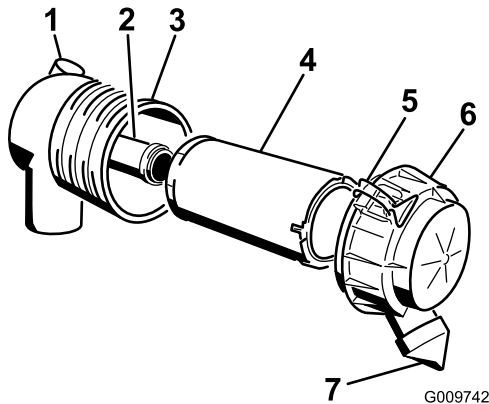

Figure 29
Important: Service the air cleaner filter only when the service indicator shows red (Figure 29). Changing the air filter before it is necessary only increases the chance of dirt entering the engine when the filter is removed.
4. Release the latches on the air cleaner and pull the air cleaner cover off of the air cleaner body (Figure 29).
1. Gently slide the primary filter out of the air cleaner body (Figure 29). Avoid knocking the filter into the side of the body.
4. If you are replacing the safety filter, carefully slide the new filter into the filter body (Figure 29).
5. Carefully slide the primary filter over the safety filter (Figure 29). Ensure that it is fully seated by pushing on the outer rim of the filter while installing it.
6. Install the air cleaner cover with the side indicated as UP facing up and secure the latches (Figure 29).